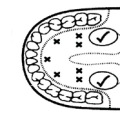

Figure 2
- a) Oral Use: Place thermometer under tongue as indicated by "✓" position shown in Figure 2. Close your mouth and breathe evenly through the nose to prevent the measurement from being influenced by inhaled/exhaled air. Normal temperature between 35.7°C and 37.3°C (96.3°F and 99.1°F).